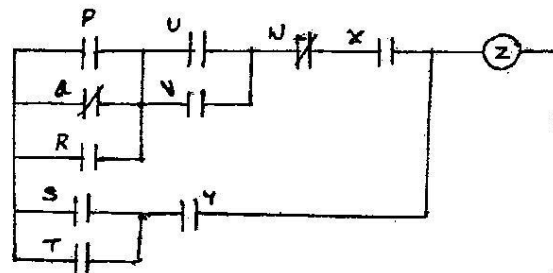

Fig.Q2(c)
- c. Convert given PLC ladder diagram, Fig.Q2(c), to gate diagram and write Boolean equation for the same. (06 Marks)